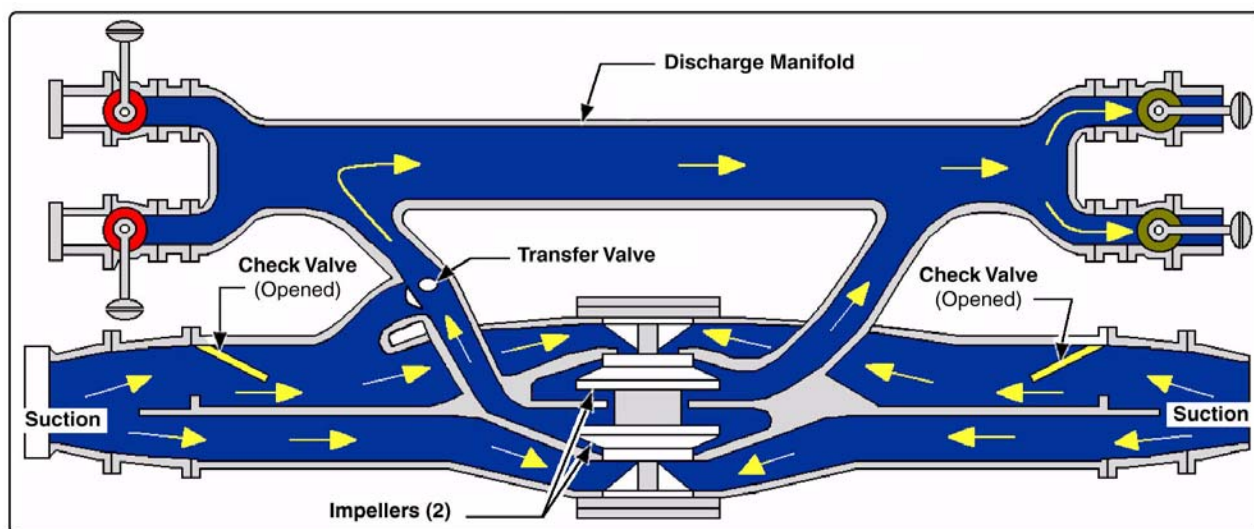

Figure 2-4: Two-Stage Pump VOLUME Operation
In Volume operation, the pressure at the pump intake is added to the pressure developed by both impellers, and the amount of water delivered to the discharge is the sum of the flows of the two impellers. (See Figure 2-4: “Two-Stage Pump VOLUME Operation.”)
- Set to VOLUME (parallel) operation for higher flows. (See Figure 2-4: “Two-Stage Pump VOLUME Operation” on page 22.)